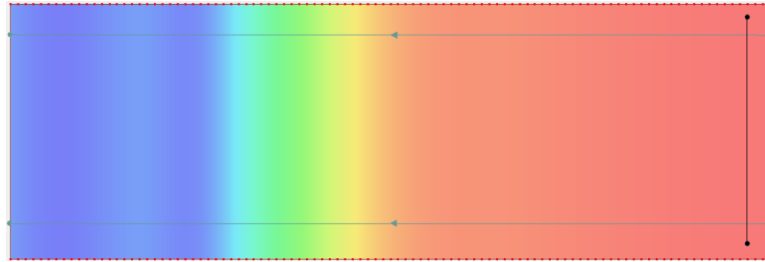

Figure 6 Location of wave maker arc, with transect arcs grayed out
6. Using the **Create Arc**  tool, create an arc that crosses the two transect arcs at the deep end of the scatter set to define the wave maker location (shown in Figure 6).